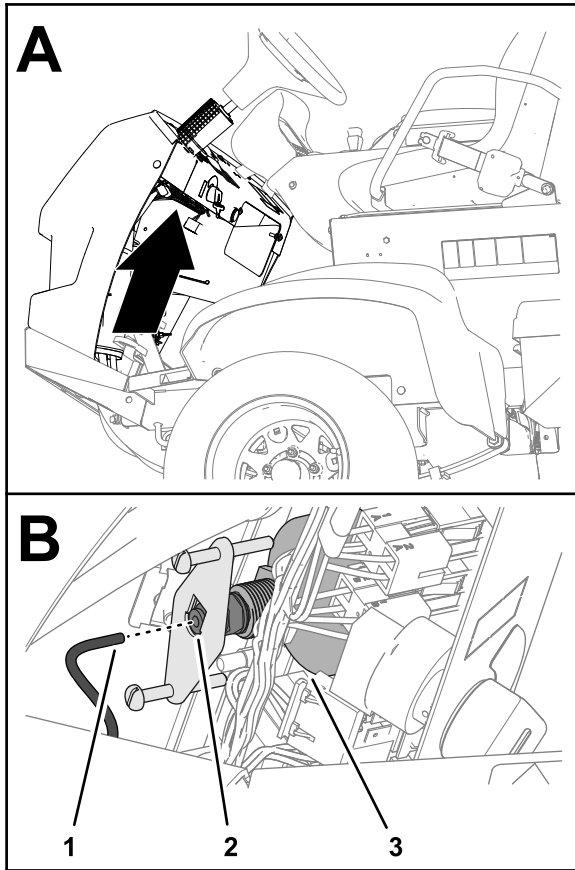

Figure 122
5. Remove the tube from the back of the pressure gauge and place the end of the tube into a container (Figure 122).